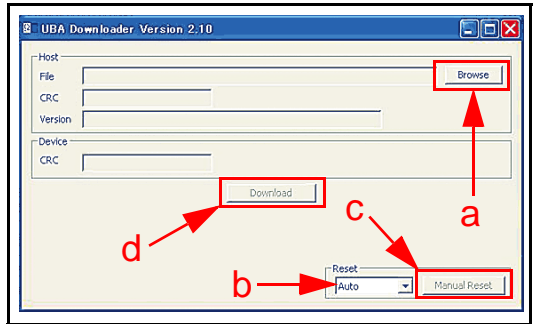
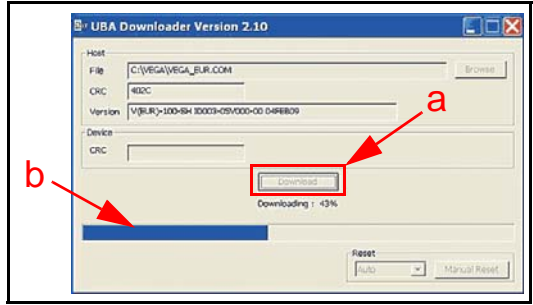

Figure 8 UBA Downloader Screen
Figure 10 UBA Downloader Progress Bar Screen
- The Program Installation Screen shown in Figure 8 will appear.
6. Mouse-click the "Browse" Screen Button (See Figure 8 a) and select the desired VEGA Software for download into the VEGA Flash Memory; then,
8. When the UBA Downloader Screen re-appears, Mouse-click on the Center "Download" Screen Button (Review Figure 8 d) to begin the Software download into the VEGA Flash Memory (See Figure 10 a). The Downloading Screen will display a Progress Barograph during the download operation (See Figure 10 b).
NOTE: If the word "Manual" appears in the "Reset" Pull-down Menu (Review Figure 8 b); the Front Panel LED will sustain a steady **Blue** Color. In this case, Return to the Start-up condition by pressing the adjacent "Manual reset" Screen Button (Review Figure 8 c) located to the right of the pull-down Menu (The Front Panel LED will then blink at a **Green** Color Rate).